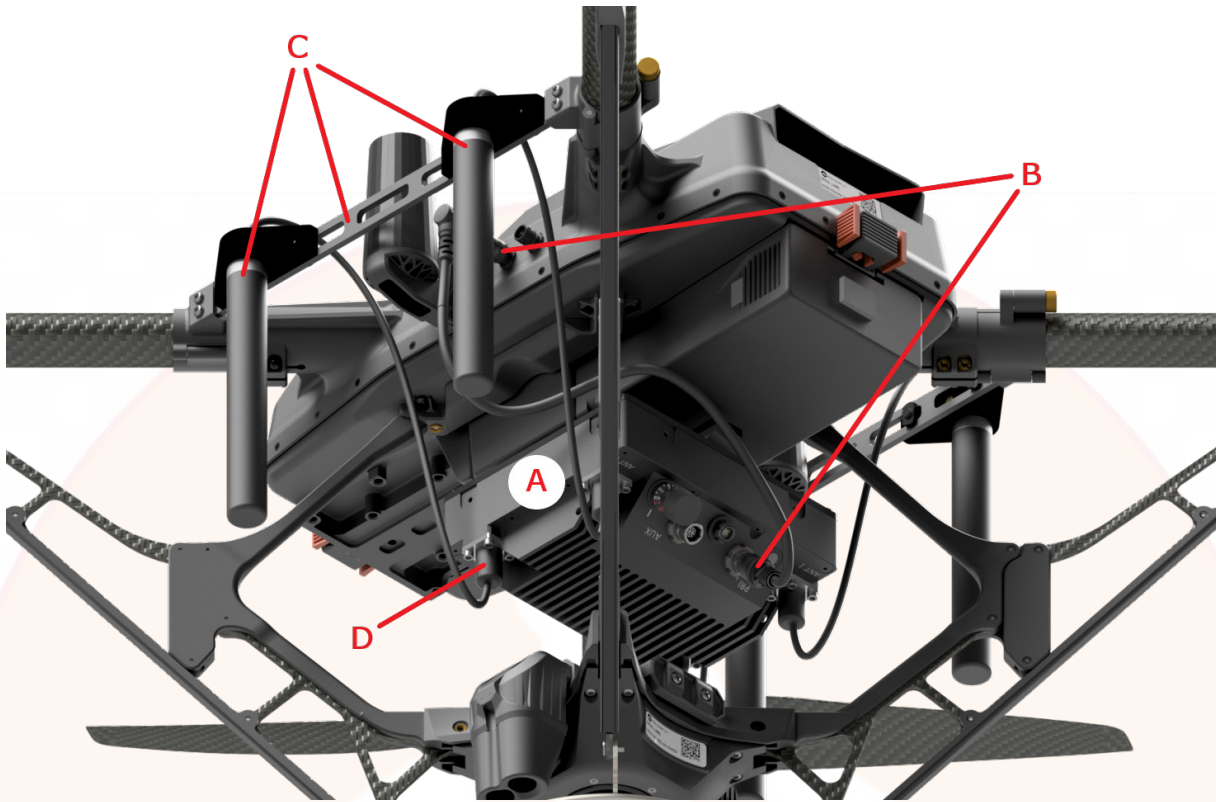

Figure 20: SC4400E Radio Installation
2. Slide the plate and radio onto the aircraft Picatinny Rail (**Figure 20, A**) following the 'Universal Radio Plate Installation' instructions above.
3. Connect the HL, SC-4400E Primary Port Cable Assembly to the **PRI** connector on the radio and then plug it into the **E1** connector on the aircraft (**Figure 20, B**).
4. Install two Antenna Brackets with two Octane Antennas each onto both sides of the aircraft (**Figure 20, C**) (see Bracket and Antenna installation instructions above).
5. Connect the Octane Antenna cables to the radio's **RF TNC** connection. Ensure each antenna cable is plugged into the same corners of the radio as the aircraft (**Figure 20, D**).